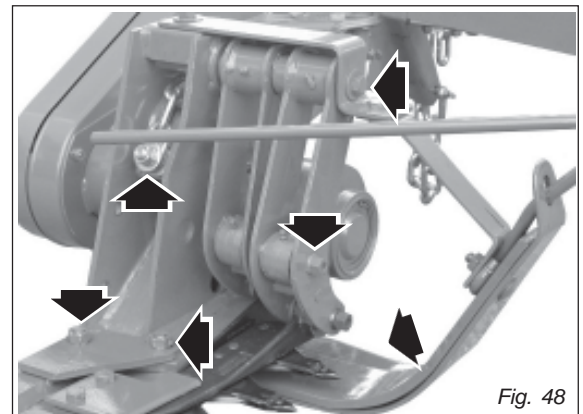

Fig. 48
- Check the tightness of the connecting rod bolts regularly (Fig. 48).